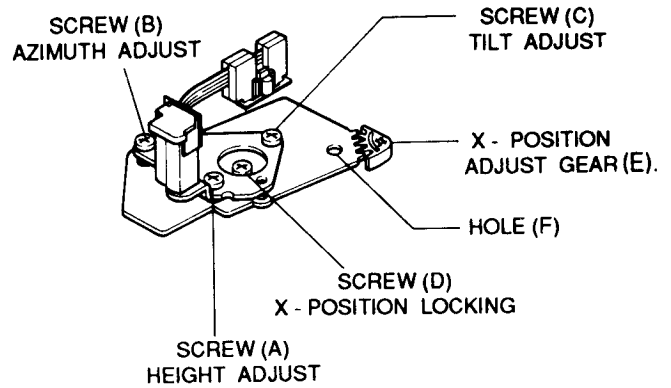

Fig. 4 Location of A/C Head Adjustment Screw
3. Turn screws(A), (B), (C) clockwise or counterclockwise until the gap of the lower tape edge and the lower edge of the control head is about 0.25 mm. (Refer to Fig. 4. and 5.)
3. Adjust screw (B) vertically to achieve maximum audio level. (See Fig. 4)
6. Turn the screw (E) counterclockwise (See Fig. 4).